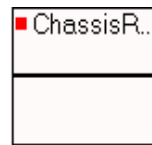

Figure 2-36 Chassis Resource Representation
3. Drag and drop the object in the Resource Editor. The object is available in the Editor. A sample of the object appears as shown in Figure 2-36 .